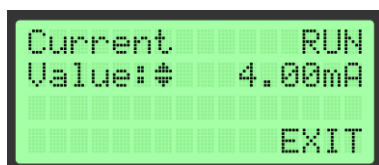
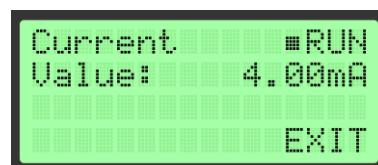

Figure 73 Changing the Output Current Value
Figure 74 Calibrator in RUN Mode
Using Up (▲) and Down (▼) user can navigate through this submenu. By pointing to the submenu item and pressing Enter (E) the user will select the parameter which he/she would like to change. Inside this submenu, user can adjust the calibrated DC current value (See Figure 73) and start or stop the calibrator. (See Figure 74)